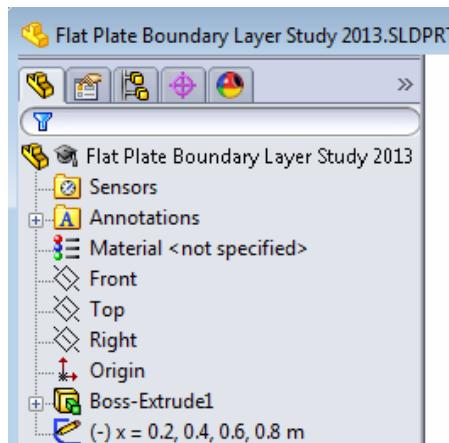

Figure 2.8 Renaming the sketch for boundary layer velocity profiles
8. Repeat step 7 three more times and add three more vertical lines to the sketch, the second line at $X = 400$ mm with a length of 40 mm, the third line at $X = 600$ mm with a length of 60 mm and the fourth line at $X = 800$ mm with a length of 80 mm. These lines will be used to plot the boundary layer velocity profiles at different streamwise positions along the flat plate. Close the **Insert Line** dialog . Save the SolidWorks part with the following name: **Flat Plate Boundary Layer Study 2013**. Rename the newly created sketch in the **FeatureManager design tree**, see figure 2.8. Click on the **Rebuild** symbol in the SolidWorks menu.